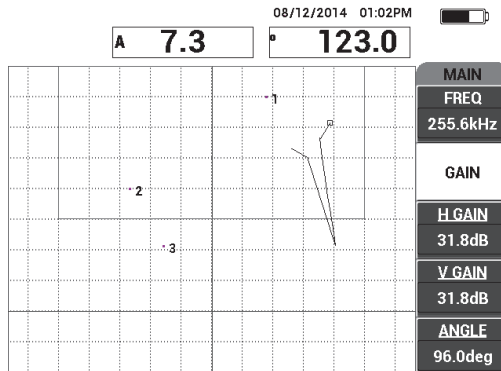

Figure 6-51 The GAIN adjusted to set the highest dot
12. Adjust the **GAIN** (B key) to set the highest dot at approximately 90 % of the screen height (see Figure 6-51 on page 166).